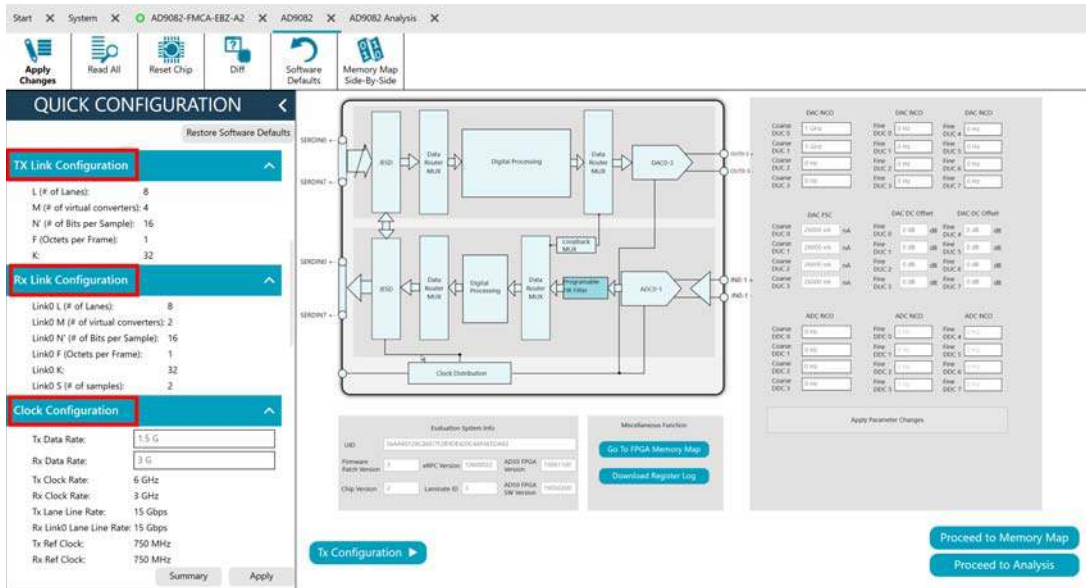

Figure 31. Configuring the AD9081 or AD9082 for Full Bandwidth Mode Using Chip View and the Direct External Clock
6. Select the options for the other sections (**TX Link Configuration, Rx Link Configuration, and Clock Configuration**) in the **QUICK CONFIGURATION** pane as shown in Figure 31.